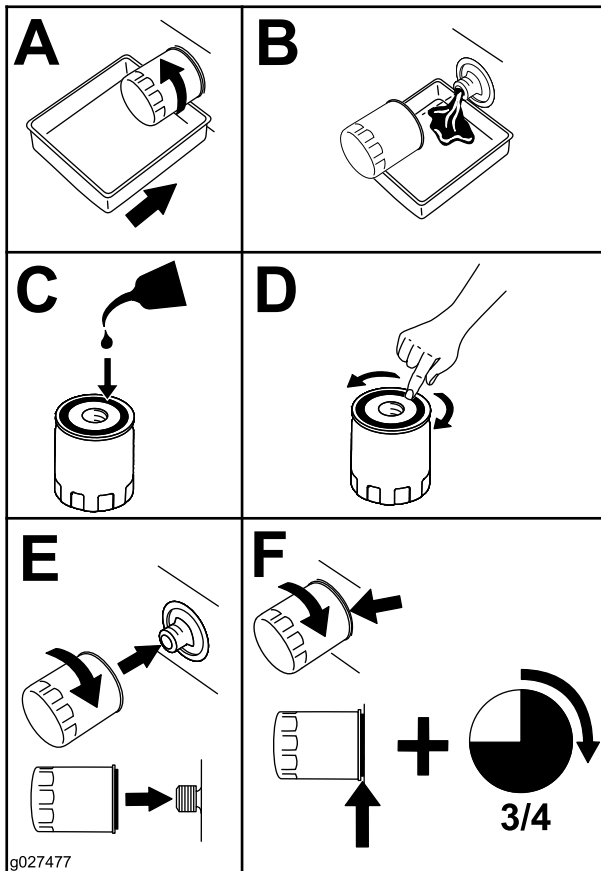

Figure 58
5. Change the engine-oil filter (Figure 58).